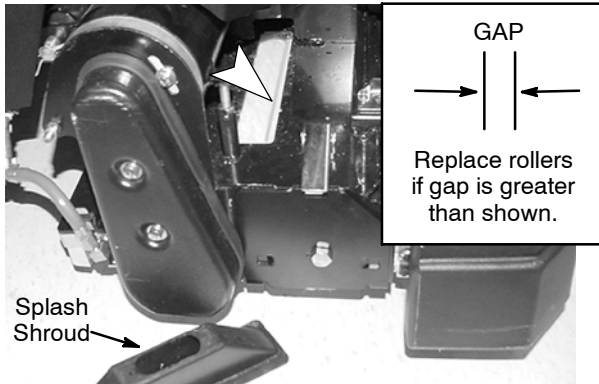

FIG. 27
- ReadySpace Cleaning: Remove the splash shroud and inspect the rollers for wear. If the gap between the two rollers is greater than 4mm (5/32") replace the rollers (Figure 27). Always replace rollers as a set.